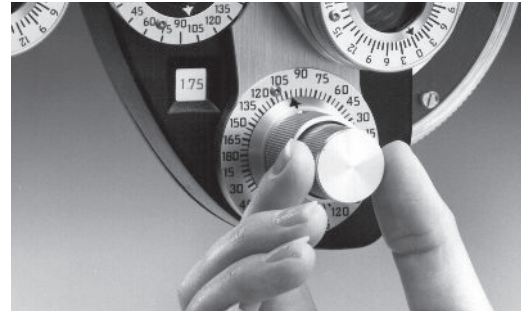

Figure JC-5 Adjust Power
2. Since the cross cylinder is in the axis check position, the practitioner merely rotates the unit 45° clockwise to the detent for proper power check positioning. The power check test is performed in the usual manner with the cross cylinder lens flipped from position I to position II. Refer to Figures JC-5 and JC-6.